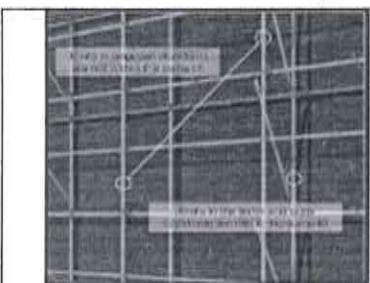

Figure 75 Staggered Joints
- b) Where the scaffold is sited adjacent to an excavation, edge of a slope or embankment, the sole boards must be set back at least 1.5times depth from the edge. (As shown in figure 75)